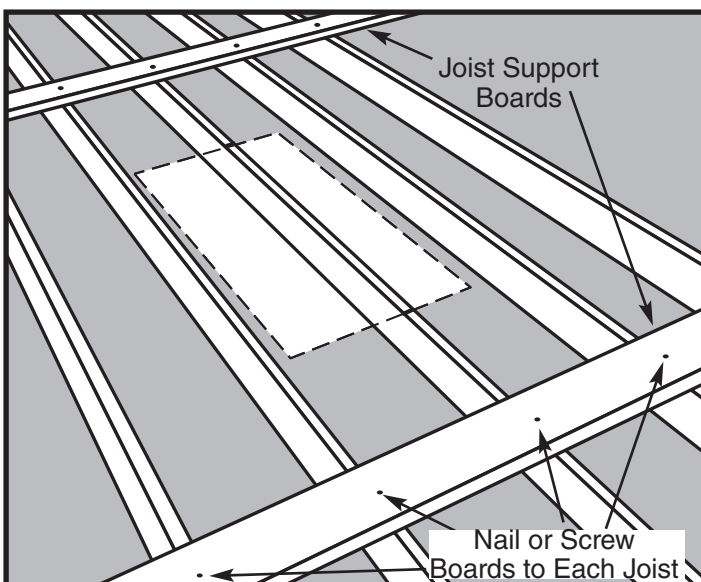

Figure 9
Step 2. Cut (2) joist-sized boards long enough to span (2) joists on each side of your chosen location (See Figure 9). These boards will support the joists that will be cut and help keep the ceiling from sagging or completely collapsing while you are working in the overhead space.
Step 3. Place these boards approximately 24" from the edge of your chosen location and nail (See Figure 9).